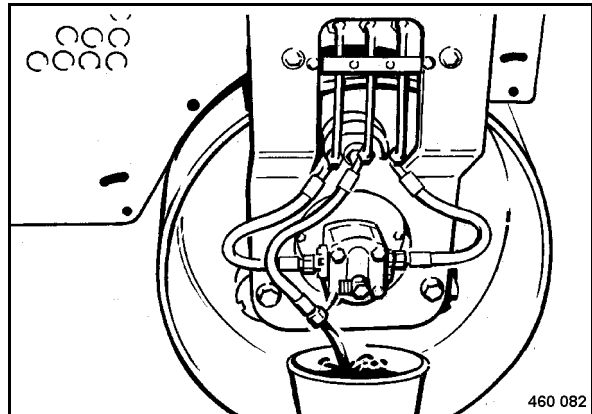

Fig. 123
- Unscrew the hydraulic hose from the vibration motor and catch the old oil running out (Fig. 123).